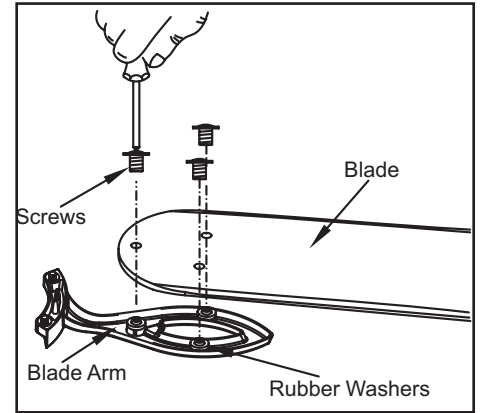

Figure 14
1. Attach blade to blade bracket using the screws as shown in figure 14. Please note that the rubber washers are pre-attached to the blade bracket. Start a screw into the bracket. Repeat for the two remaining screws.